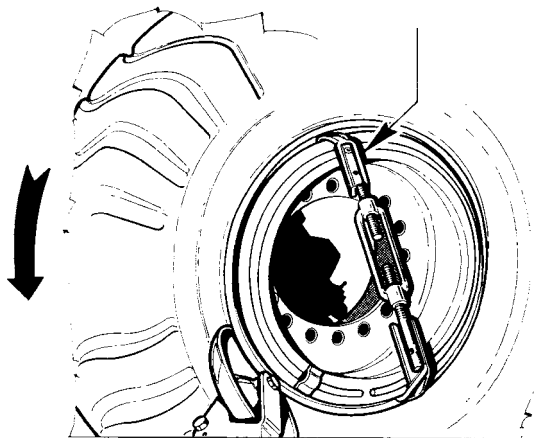

Fig.37
2. Position the tool close to the rim edge (fig.37). When the lock ring is stuck to the tire bead, (on the O.T.R. tires) to loosen the bead, it is necessary to hold the ring to the rim with the appropriate clamp #874007611 (optional accessory).